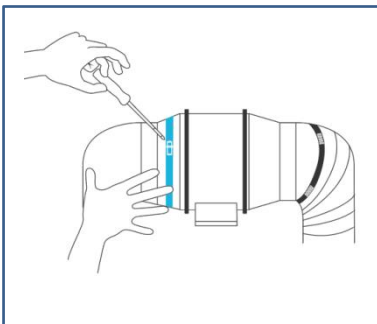

Fig.11.
1、 If installing ducting, purchase a suitable duct and duct clamp and secure it to both ends of the fan to ensure tight sealing. Finally tighten the air duct clamp with a screwdriver. See the (Fig.11.)